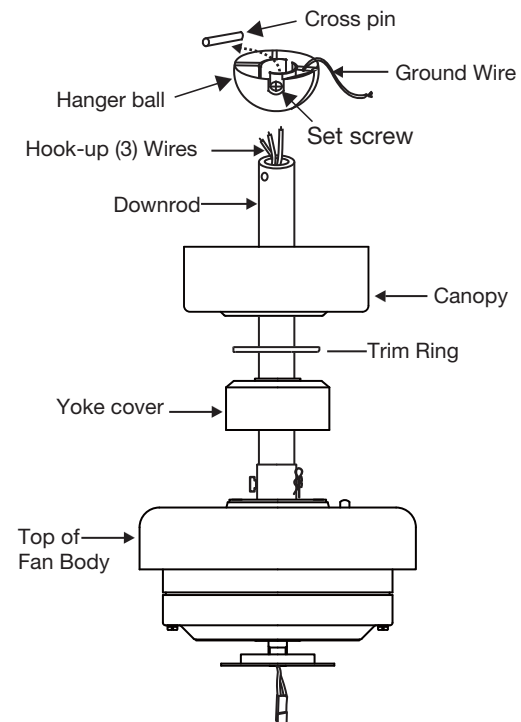

Fig. 3
- 5 **Motor to Receiver Electrical Connections:** (Fig. 3) Connect the black wire from the fan to the black wire marked "TO MOTOR L" on the receiver. Connect the white wire from the fan to the white wire marked "TO MOTOR N" on the receiver. Connect the blue wire from the fan to the blue wire marked "FOR LIGHT" on the receiver. Secure all the wire connections with the plastic wire nuts provided.
- 6 **Receiver to House Supply Wires Electrical Connections:** (Fig. 3) Connect the black (hot) wire from the ceiling to the black wire marked "AC in L" from the receiver. Connect the white(neutral) wire from the ceiling to the white wire marked "AC in N" from the Receiver. Secure the wire connections with the plastic wire nuts provided.
- 7 If your outlet box has a ground wire (green or bare copper) connect it to the fan ground wires; otherwise connect the hanging bracket ground wire to the mounting bracket. Secure the wire connection with a plastic nut provided. After connecting the wires, spread them apart so that the green and white wires are on one side of the outlet box and black and blue wires are on the other side. Carefully tuck the wire connections up into the outlet box. (Fig. 3)